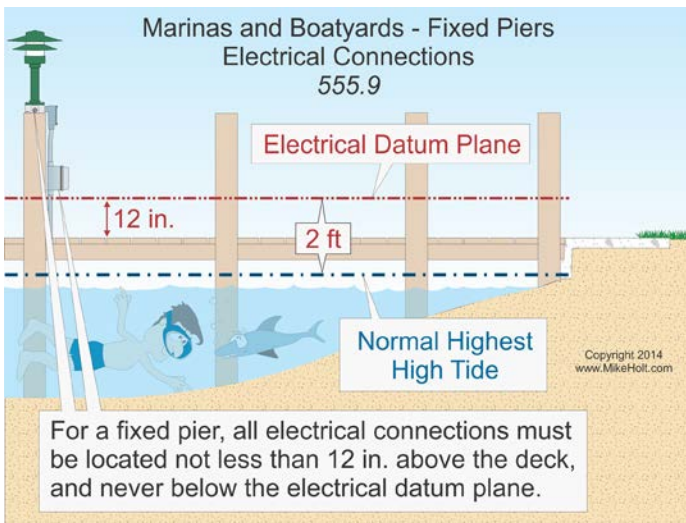

Figure 555-10
**Fixed Piers.** For a fixed pier, electrical connections must be located not less than 12 in. above the deck, and never below the electrical datum plane. Figure 555-10